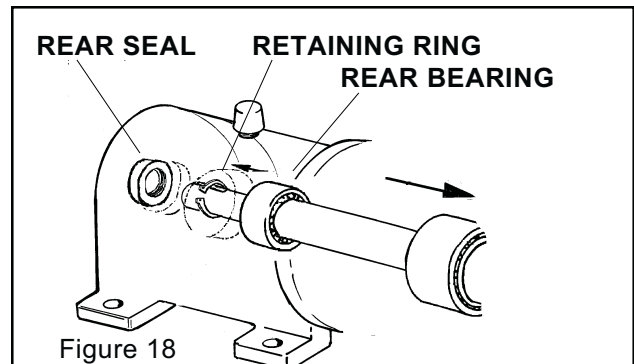

Figure 18
### Rear Seal Replacement (Figure 18)
1. Remove rear seal. Remove rear bearing retaining ring. Press drive shaft through front of gear case (through rear bearing). (Figure 18)
3. Press the rear bearing out of the front of gear case. (Figure 18)
5. Lubricate outer races and press shaft assembly into case. Replace retaining ring and rear seal. (Figure 18)